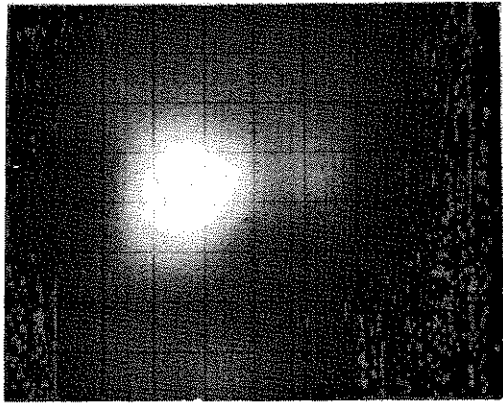

Figure 3-7. Fade positive after 2 to 4 minutes in STD mode.
- g. Fade positive. Appears as random green areas on a dark background in MAX PERSISTENCE mode, figure 3-7.